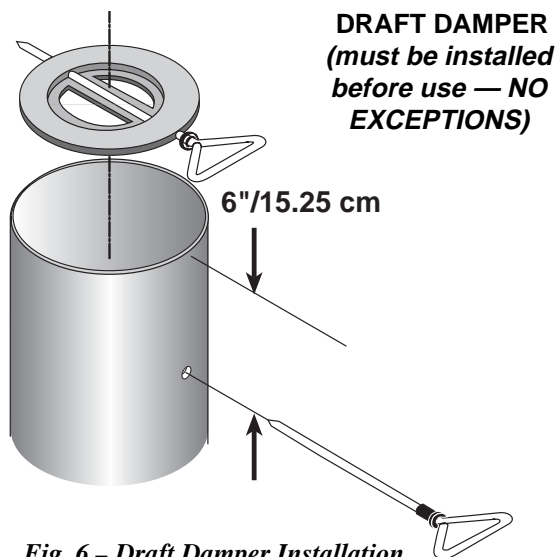

Fig. 6 – Draft Damper Installation
1. Drill two 1/4" holes centered on either side of the pipe section 6" from the top end of the pipe (figure 6).